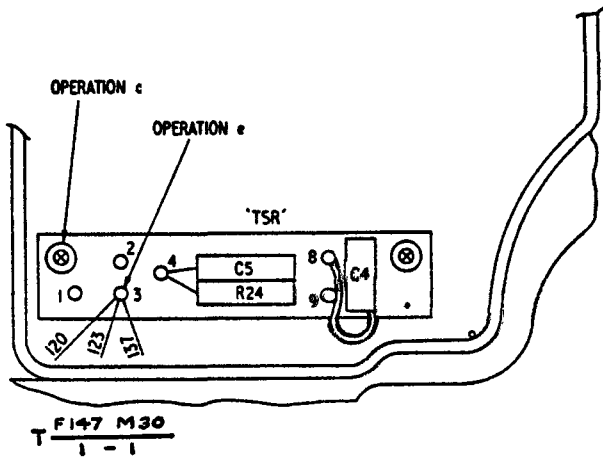
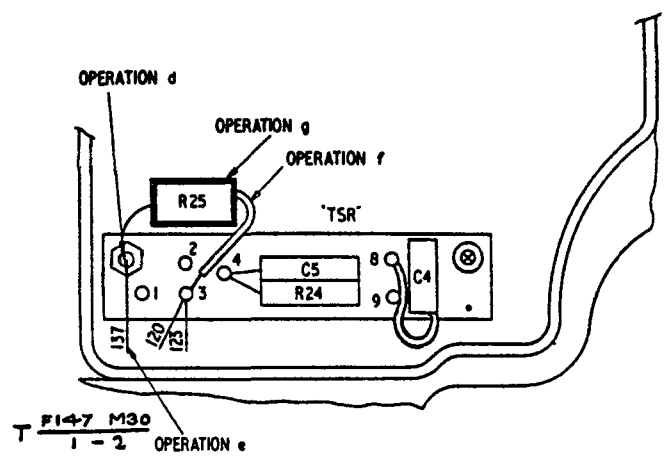

Fig 1 - Part of front panel, component layout, before modification
Fig 2 - Part of front panel, component layout, after modification
- c. Remove and dispose of the board securing screw on the left hand side of terminal board TSR. See Fig 1.
- e. Locate and unsolder wire No 137 from TSR-3 and resolder to the stand-off insulator. See Fig 1 and 2.
- f. Sleeve one lead of the Resistor, fixed, wirewound 56Ω (Z/5905-99-011-3225) circuit ref 27R25 with the Sleeving, silicone elastomer provisioned in the mod kit.
- g. Solder the sleeved lead of the resistor to TSR-3 and the remaining lead to the stand-off insulator. See Fig 2.
- b. Page 1029, Fig 2524: Show changes as illustrated in Fig 2 of this instruction.
Panel, electronic circuit (board 13) - figure 2
h. Record the embodiment of this modification by painting a diagonal line through, without obliterating, the figure 2 on the modification record label on board 13 with red finishing paint.
(1) On repair or overhaul examine the equipment to determine whether the figure 2 has been struck through on the modification record plate attached to the harness adaptor unit.
(2) If the figure 2 has not been struck through, demand the stores as detailed in para 6 and carry out this modification.
(3) On completion of this modification strike through with a diagonal line the figure 2 on the modification record plate attached to the harness adaptor unit.